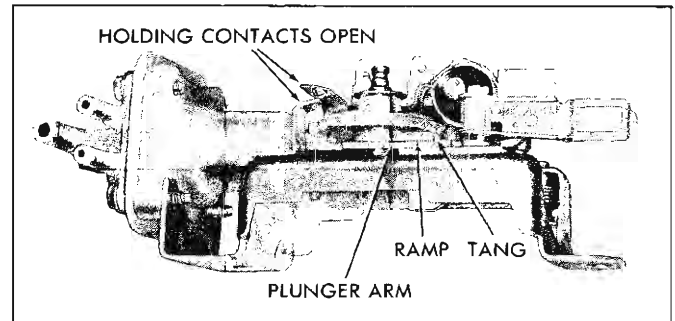

Fig. 58—Releasing Pump from Lockout Position
- b. Manually operate pump clockwise to release pump from "lock-out" position (fig. 58).